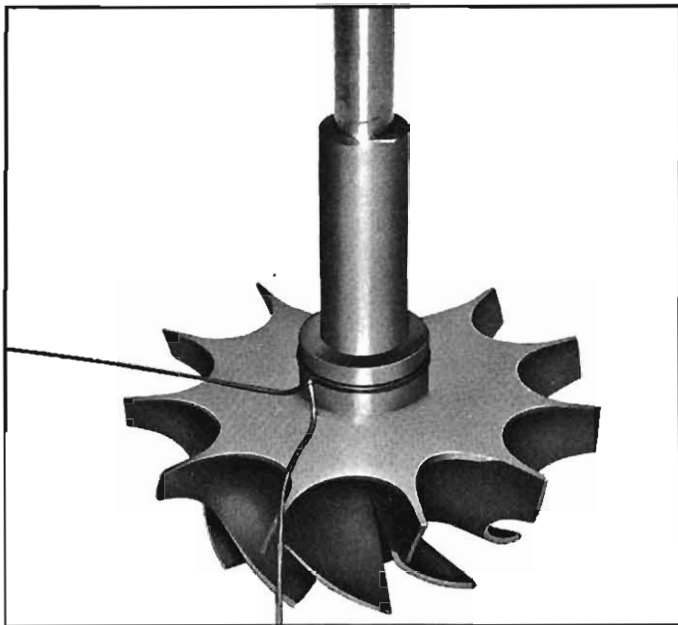

Fig. 51—Ring Compressed, Using Tag Wire
11. Lubricate the turbine shaft seal ring groove with oil and install ring into groove. Compress the ring into the groove using tag wire (fig. 51) or a plastic compression ring (fig. 52). If tag wire is used, make one twist with pliers and bend the wire to form it along the curvature of shaft and wheel back face as shown in Figure 51. (Remember direction of twist for removal.)